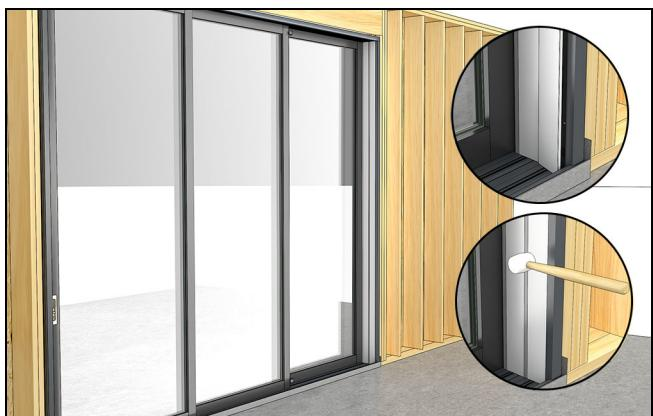

Figure 184
2. Install the interior stationary jamb covers. The covers have a leg that fits into a kerf on the jamb weather strip. Fit the leg on the cover into the jamb kerf and rotate the cover into place. You may need to seat the cover with a rubber mallet. See Figure 184.